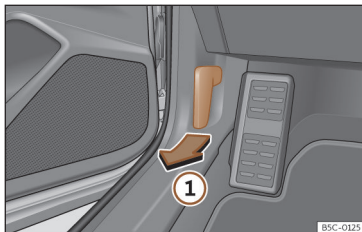

Fig. 183 Release lever in the driver's footwell area.
- Open the door and pull the lever that is underneath the instrument panel >>> **Fig. 183** (1).